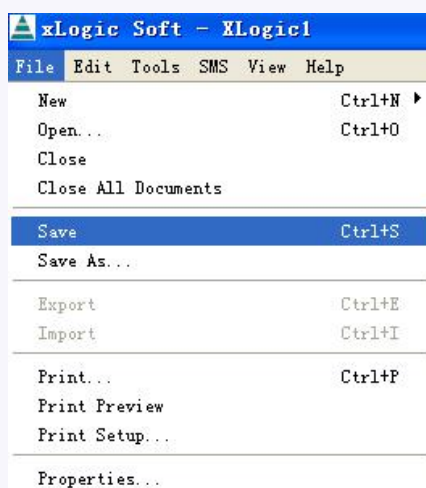

Fig. 7.10.8 Save File Menu
- 1.To save a Program, click option "save" or "Save As" under menu "File" with left button of the mouse, as shown in Fig.7.10.8, or click button " "under toolbar.